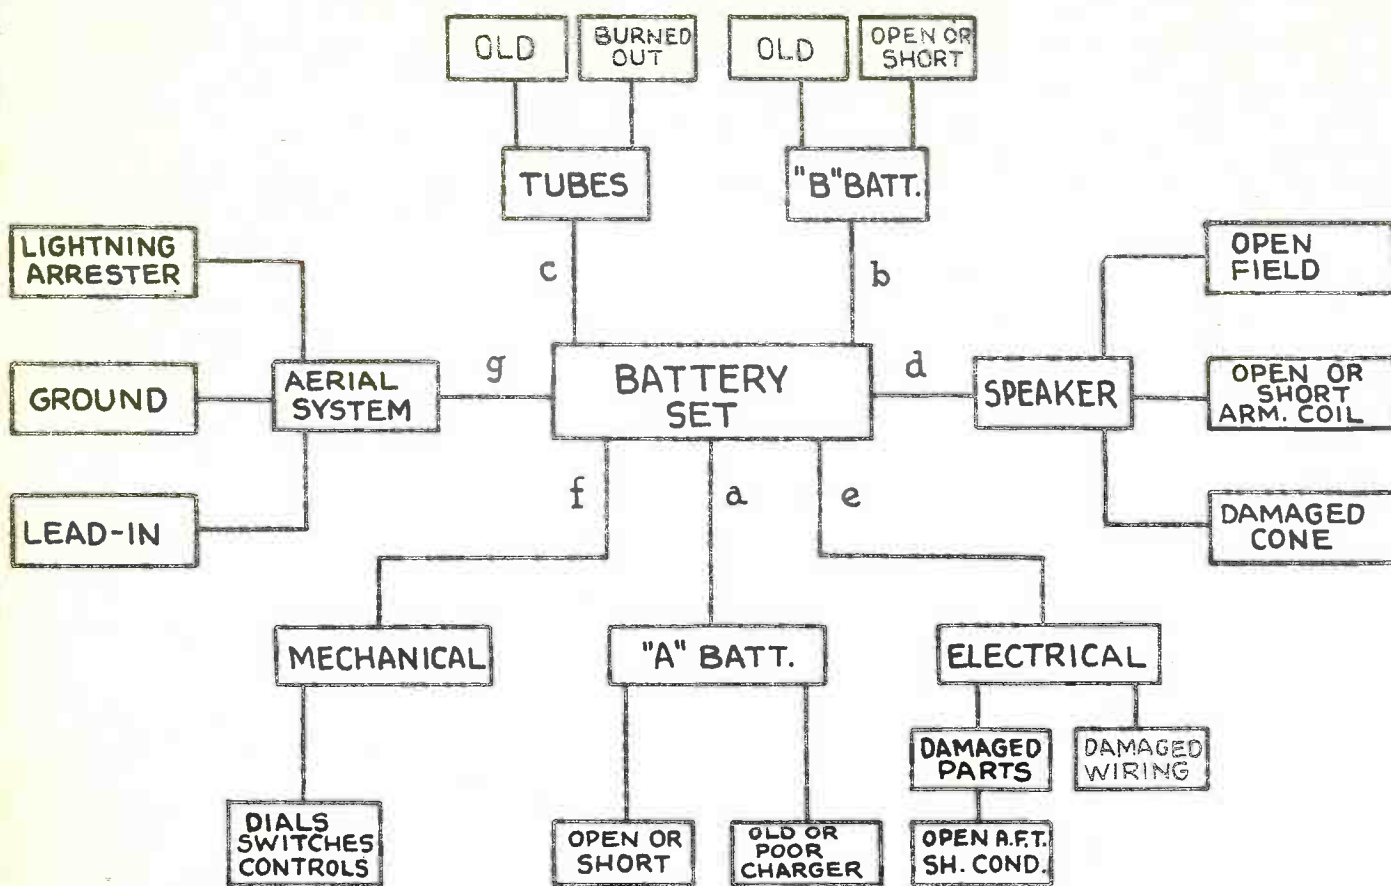

Fig. 7 - Trouble Chart for Battery Type Sets.
(5) Main Sources of Trouble. Further classification reveals that there are seven main sources where trouble may exist in the battery set. These are represented graphically in the chart of Fig. 7. Listing them in order of their importance, they are:
(12) Battery Sets with Eliminators. The same general procedure for testing battery sets employing "A" or "B" battery eliminators, or both, should be followed as just described in connection with battery sets. In fact, the same chart of Fig. 7 may be used. If trouble is located in branch (a) comprising the "A" battery or circuit, testing methods described in Chapter III should be followed. Likewise, if trouble is located in branch (b), covering the "B" battery system, instructions on "B" battery eliminators should be studied. Since this information is fully covered in separate chapters, we will not go into it in detail here.
(13) D.C. Electric Receivers. These receivers differ from the battery type mainly in the manner by which the plate and filament supply voltages are obtained, and consequently the same testing procedure can be followed as with the battery type. In these receivers, the filaments are connected in series and supplied directly from the D.C. lighting line through a suitable resistor. Since the maximum voltage obtained from the